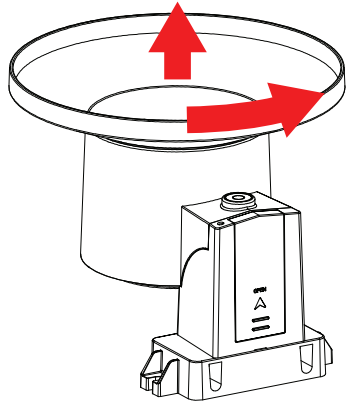

Figure 11
1. Clean the rain gauge once every 3 months. Rotate the funnel counter-clockwise and lift to expose the rain gauge mechanism (Figure 11), and clean with a damp cloth. Remove any dirt, debris and insects. If bug infestation is an issue, spray the array lightly with insecticide.